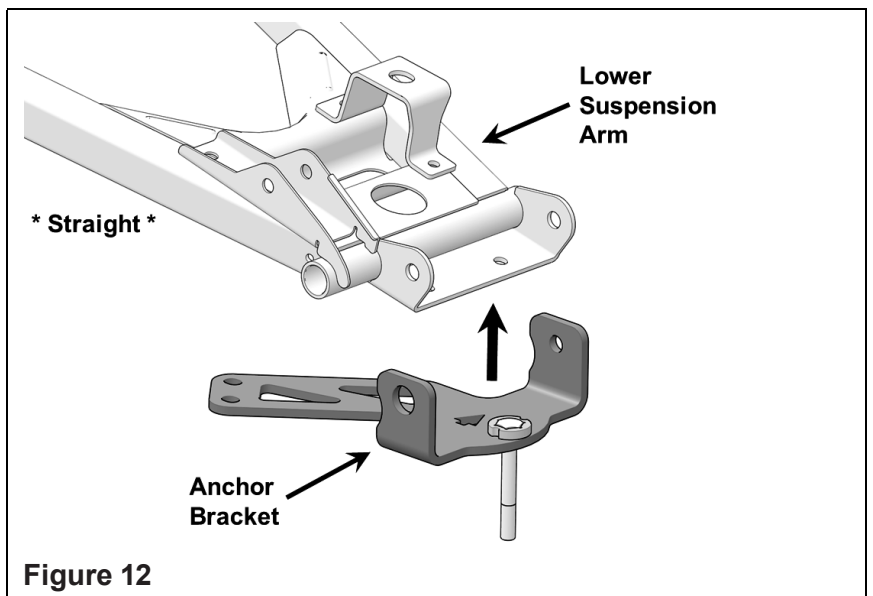

Figure 12
6. Position anchor bracket under lower rear suspension arm. See Figure 12 or Figure 13.